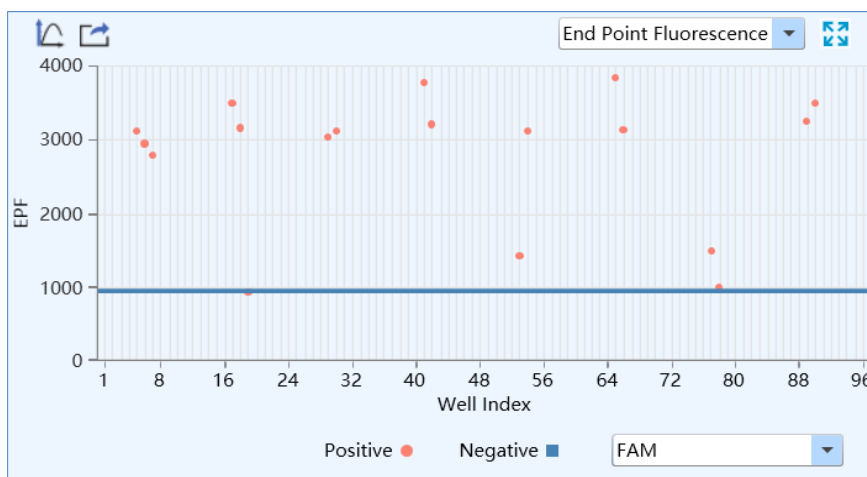

Figure D-18.1. End Point Fluorescence Analysis Interface - End Point Fluorescence Scatter Plot
I. End Point Fluorescence Scatter Plot: display the scatter plot of fluorescence intensities measured at end the point of amplification plateau phase, as shown in figure D-18.1.